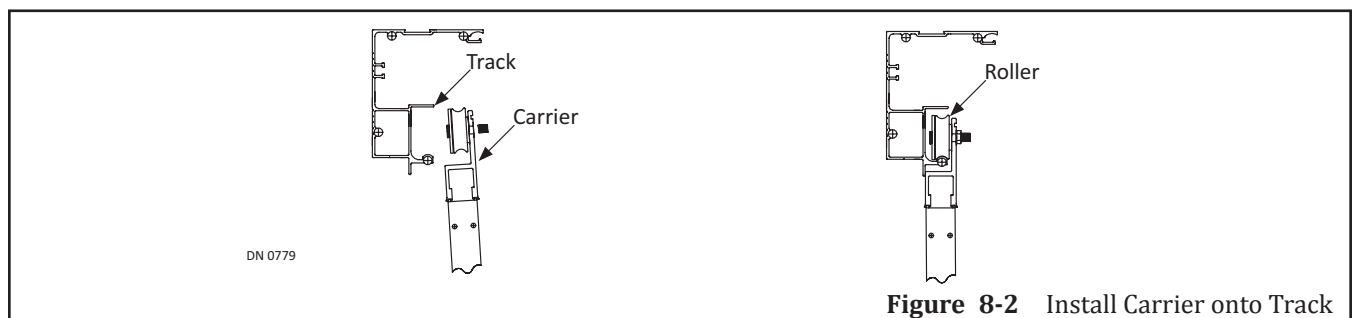

Figure 8-2 Install Carrier onto Track
3. Loosen (1) Nut on each Roller by inserting (1) 7/32" Allen wrench into the exposed end of a Roller Axle. Hold the 7/32 inch Allen wrench in place to keep the Roller Axle stationary. At the same time, loosen (1) 7/16-20 Whizlock nut with a 15/16 inch Open End Wrench.
4. Slightly tilt the Slide door to make it easier for the (4) Rollers to 'catch' onto the track. Please see Figure 8-2.